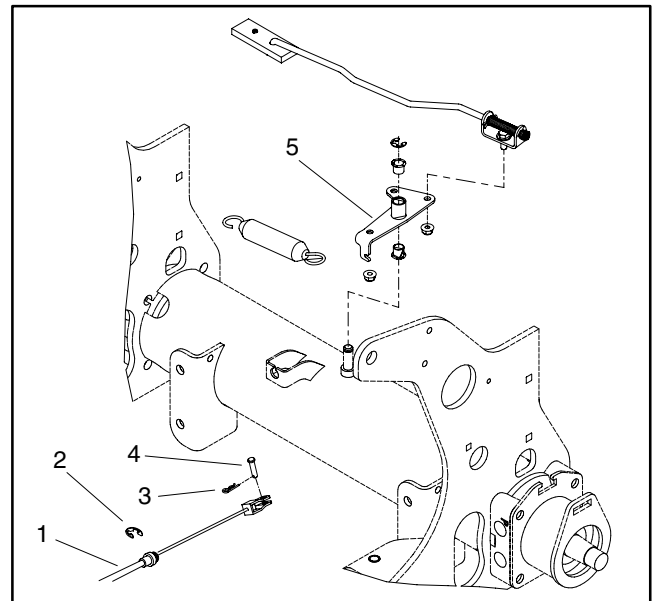

Figure 6
2. Remove six (6) washer head screws that secure lower handle cover to control handle. Remove lower handle cover.
5. Remove brake cable from parking latch pivot on rear cross tube of frame (Fig. 6):
2. Secure brake cable to parking latch pivot on rear cross tube of frame (Fig. 6):
5. Position lower handle cover to control handle and secure with six (6) washer head screws.